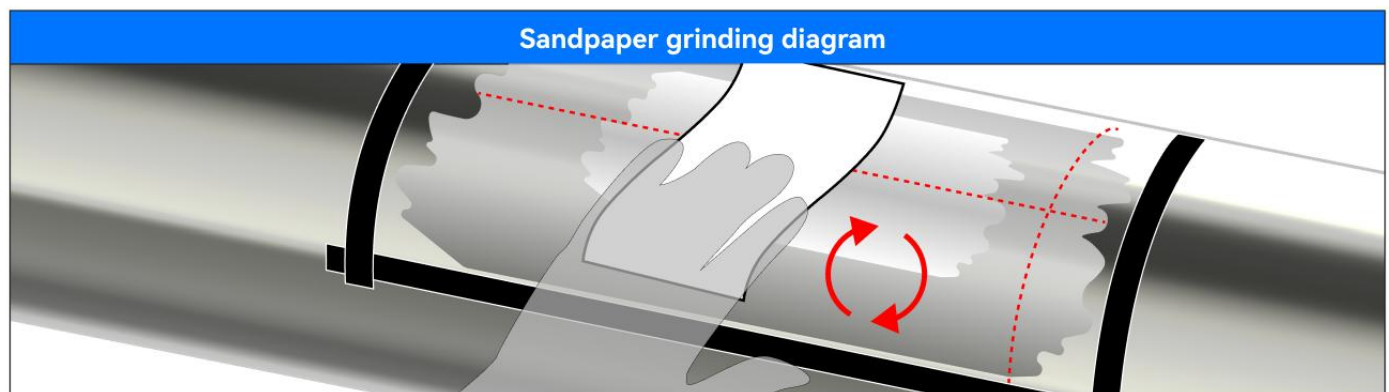

Figure 3.17
7. The second stage of grinding using the appropriate granularity of carbon paper. It is recommended to start at 120 grit and grind in a random pattern up to 400 grit for a flat, clean and well-bonded surface, as shown in Figure 3.17.